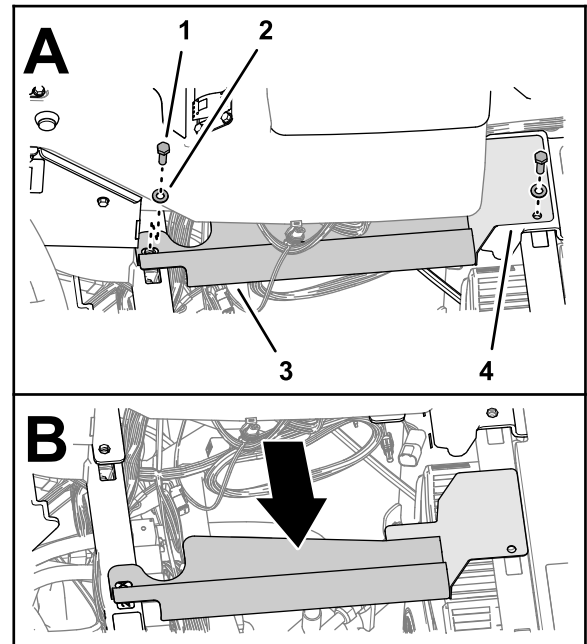

Figure 14
1. Remove the 2 capscrews (5/16 x 1 inch) and 2 washers (5/16 inch) that secure the bottom console cover and end console cover to the machine, and remove the covers (Figure 14).